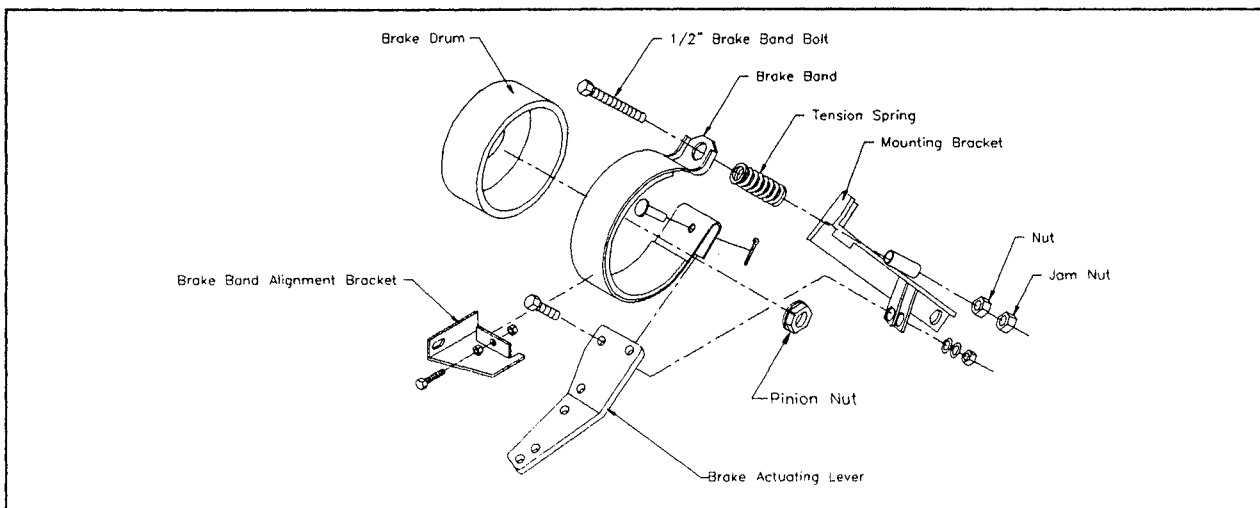

Figure 3-1
- Loosen the jam nut on the long 1/2" brake band bolt (see figure 3-1).
If the brake drum is scored or damaged, remove it using the following procedure and refer to Figure 3-1.
alignment brackets (see Figure 3-1).